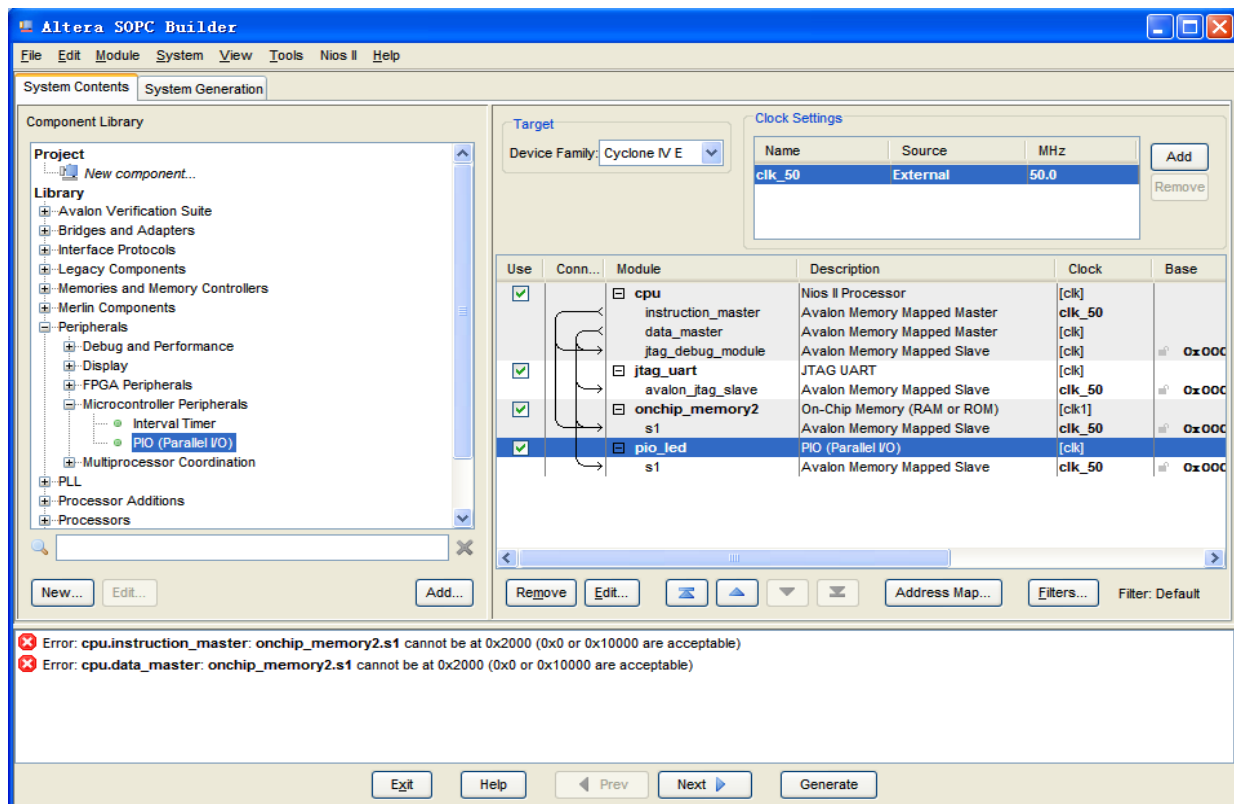

Figure 7-33 Rename PIO
21. Rename **pio\_0** to **pio\_led** as shown in Figure 7-33.